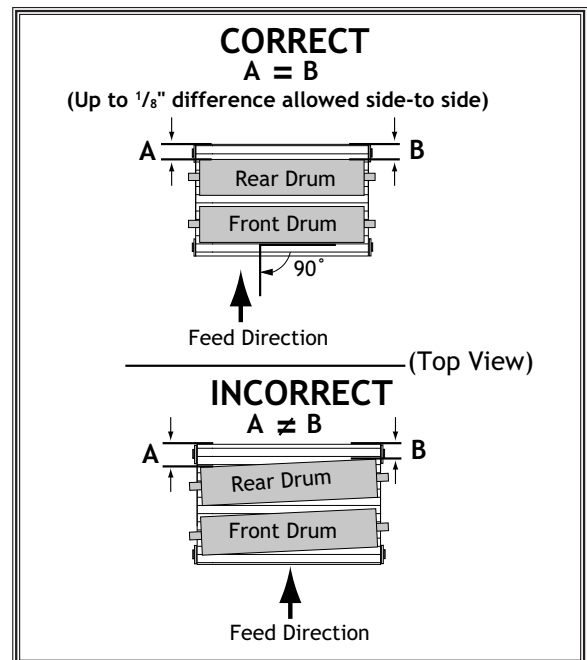
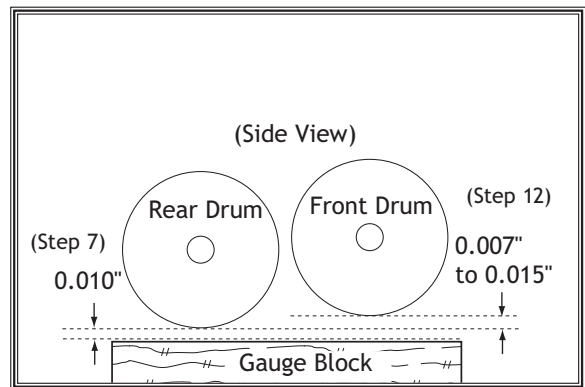

Figure 49. Drum perpendicular to feed direction.
Figure 58. Rear drum set below front drum.
There are three adjustments for the sanding drums: 1) the drums must be perpendicular to the feed direction (parallel with the conveyor roller, **Figure 49**); 2) the drums must be parallel to the top of the conveyor belt (**Figure 54, Page 40**); 3) the rear drum must be set approximately 0.007" to 0.015" below the front drum (**Figure 58, Page 41**).
The tolerances for having the drum perpendicular to the feed direction allow up to $\frac{1}{8}$ " difference from one side to the other (see **Figure 49**). If the drums are not perpendicular to the feed direction (in other words, parallel to the conveyor rollers), they may put a side load on the conveyor belt during operation, forcing the conveyor to track off to the side and possibly causing damage.
6. Turn the micro-adjustment knob until a 0.010" feeler gauge fits between the drum and gauge board (**Figure 58**).
Note: The 0.017"-0.025" setting is a recommended range and includes the 0.010" setting on the rear drum and the additional 0.007" to 0.015" height from **Step 12** (See **Figure 58**). Some trial-and-error may be needed to find the optimal setting based upon the sandpaper grit size you use (ie, coarse grit = smaller number; fine grit = larger number).